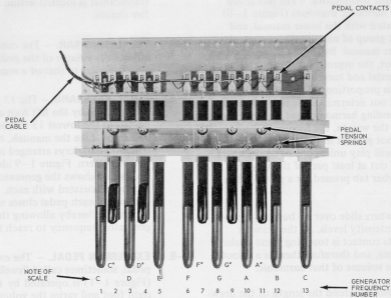

Figure 1-9. Pedal Keyboard
- 1-8. **PEDAL KEYBOARD.** – The 13 playing pedals are operated by the left foot and are connected to the lowest 13 frequencies of the generator. Like the manuals, they have light and dark keys arranged in the standard octave pattern. Figure 1-9 identifies the pedals and shows the generator frequency number associated with each. A single contact on each pedal closes when the pedal is pressed, thereby allowing the correct generator frequency to reach the amplifier.